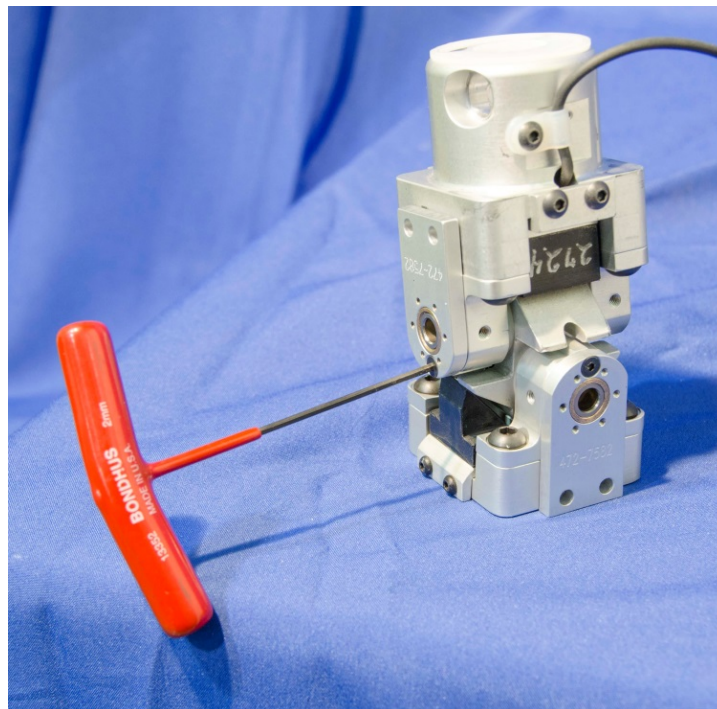

Figure 12-44. Install pot end ankle bushing plate assembly to torque bottom base
- 12.2.2.27 Attach the Pot End Ankle Bushing Plate Assembly (472-7582) to the Torque Bottom Base (472-7523) with one M3 x 0.5 x 12 FHCS near the rounded end of the bushing plate (Figure 12-44).